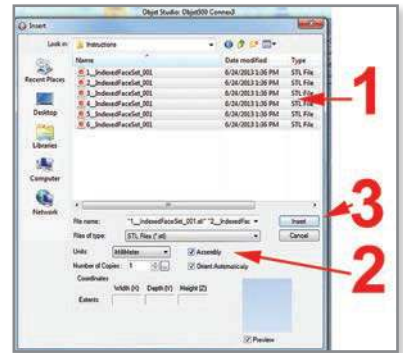

Figure 8: Import STLs into Objet Studio.
- STEP 1:** Open Objet Studio™ and import all of the STL files saved in section 1.3. Using the **Insert Part** function, select all of the STL files and check the **Assembly** box. Then click **Insert** (Figure 8).